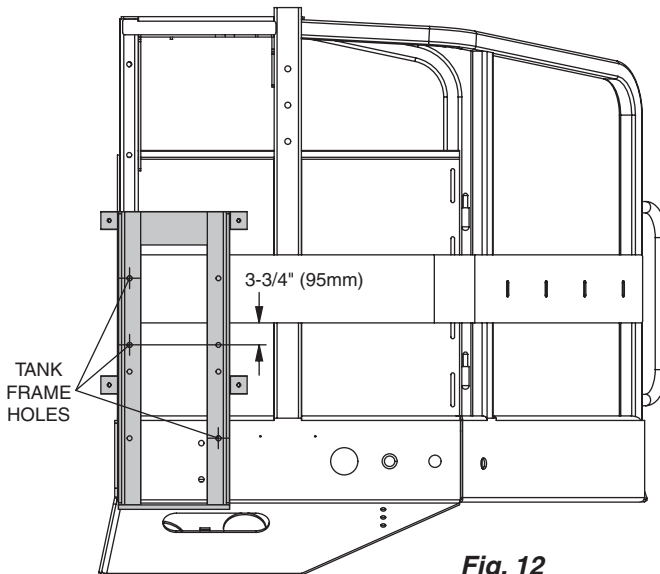

Fig. 12
1. Line up the left edge of the tank mounting bracket with the left edge of the platform and drill three 7/16" dia. holes as shown in (Fig. 12).